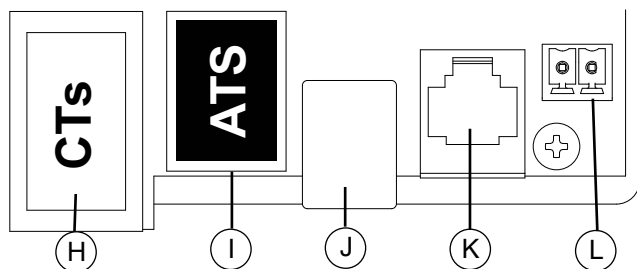

Figure 5-3. Accessory Ports
- ☐ The Inverter ATS Control port on the PWRcell ATS controller is wired to the inverter “ATS” port via Cat 5 cable. The inverter “ATS” port is labeled 'I' in Figure 5-3.
- ☐ The “Inverter CTs” port on the PWRcell ATS controller is wired to the inverter “CTs” port via Cat 5 cable. The inverter “CTs” port is labeled 'H' in Figure 5-3.
- ☐ The “Inverter ATS Control” port on the inverter PWRcell ATS controller is wired to the inverter “ATS” port via Cat 5 cable. The inverter “ATS” port is labeled 'I' in Figure 5-3.
- ☐ The “Inverter CTs” port on the generator PWRcell ATS controller is wired to the inverter “CTs” port via Cat 5 cable. The inverter “CTs” port is labeled 'H' in Figure 5-3.